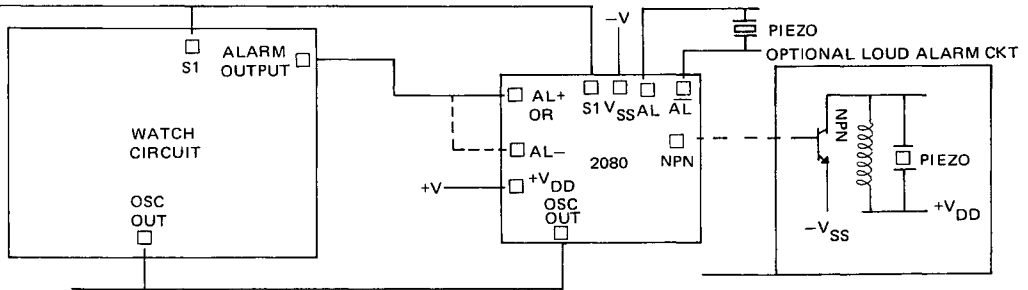

Figure 2
1. The NPN pad may be used to drive the base of an NPN transistor when used with a coil for amplified sound output. Direct drive on the piezo is accomplished using AL an $\overline{\text{AL}}$ (Ref. Fig. 2)